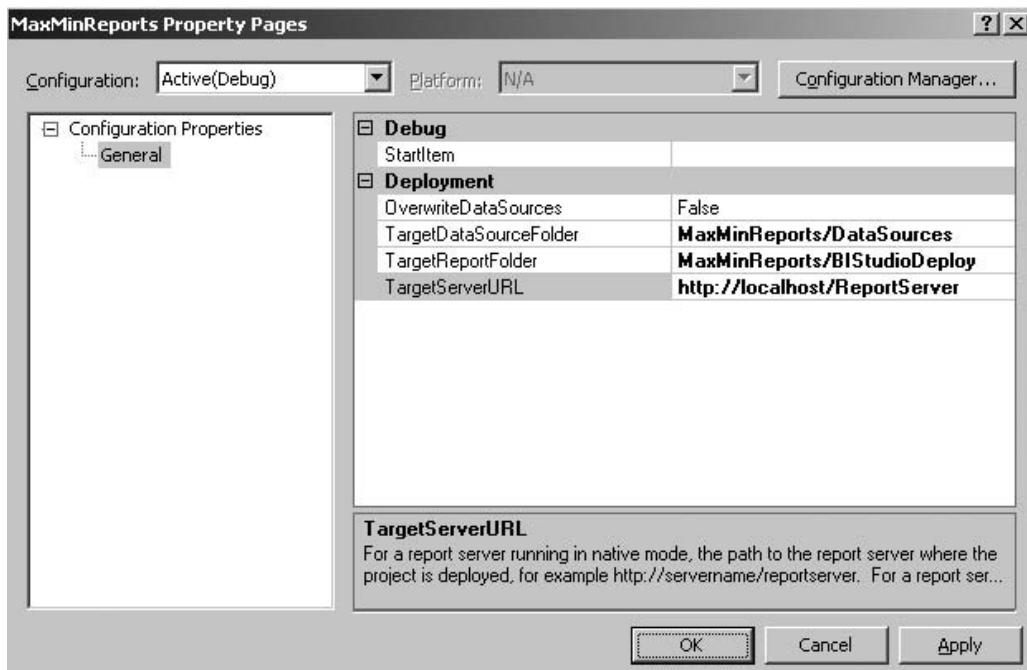

Figure 17-2 The MaxMinReports Property Pages dialog box
5. Type **http://ComputerName/ReportServer** for TargetServerURL, where ComputerName is the name of the computer where the report server is installed. If you are using a secure connection, you should replace http: with https:. The MaxMinReports Property Pages dialog box appears, as shown in Figure 17-2.